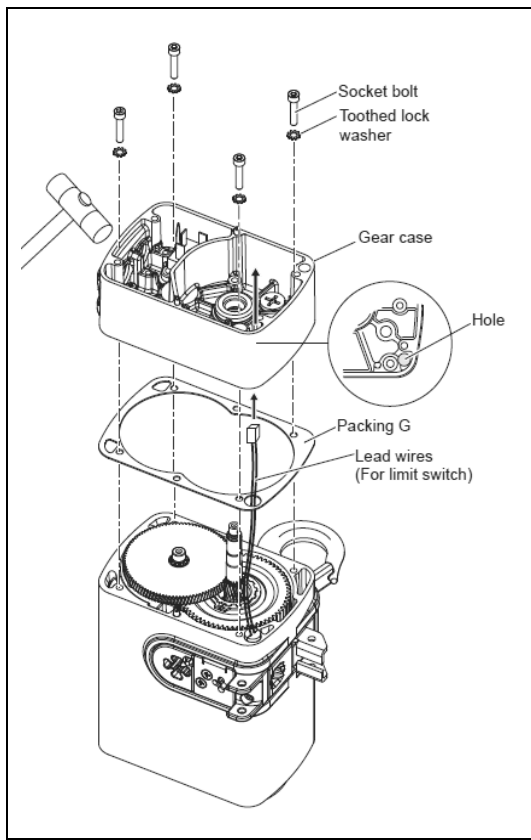

Figure 6-4 Assembling Diagram
- 11) Set packing G and the gear case on top of the body. Pass the lead wires through the packing G hole. Tap the gear case with the plastic hammer to install the gear case to the body with no gaps. (See **Figure 6-4**)
- 12) Secure the gear case using the socket bolts and toothed lock washers. Pass the lead wires through the gear case hole. Make sure the lead wires are not pinched by the gear case. Make sure the oil seal is not damaged by the pinion. (See **Figure 6-4**)
- Epnoc Grease AP (N) 0 (ENEOS Corporation)